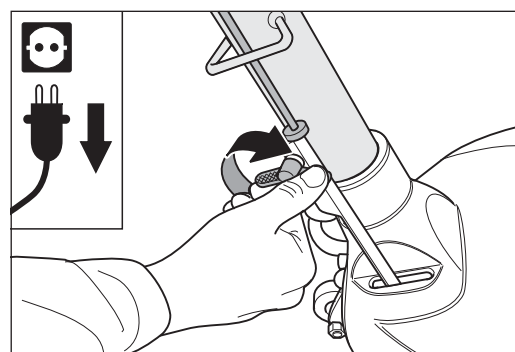
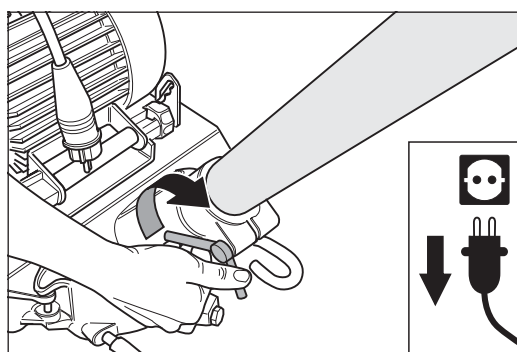

Fig. 50 After inserting the guide tube, carefully tighten the wing screw at the lower rod.
Fig. 51 After inserting the guide tube, carefully tighten the wing nut at the machine housing.
- 3 Carefully tighten the wing screw at the lower rod (Fig. 50) and the wing nut at the machine housing (Fig. 51).